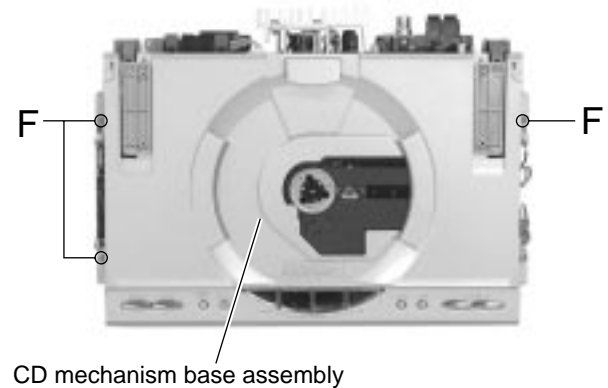

Fig.7
■Removing the CD mechanism base assembly (See Fig.7 to 14)